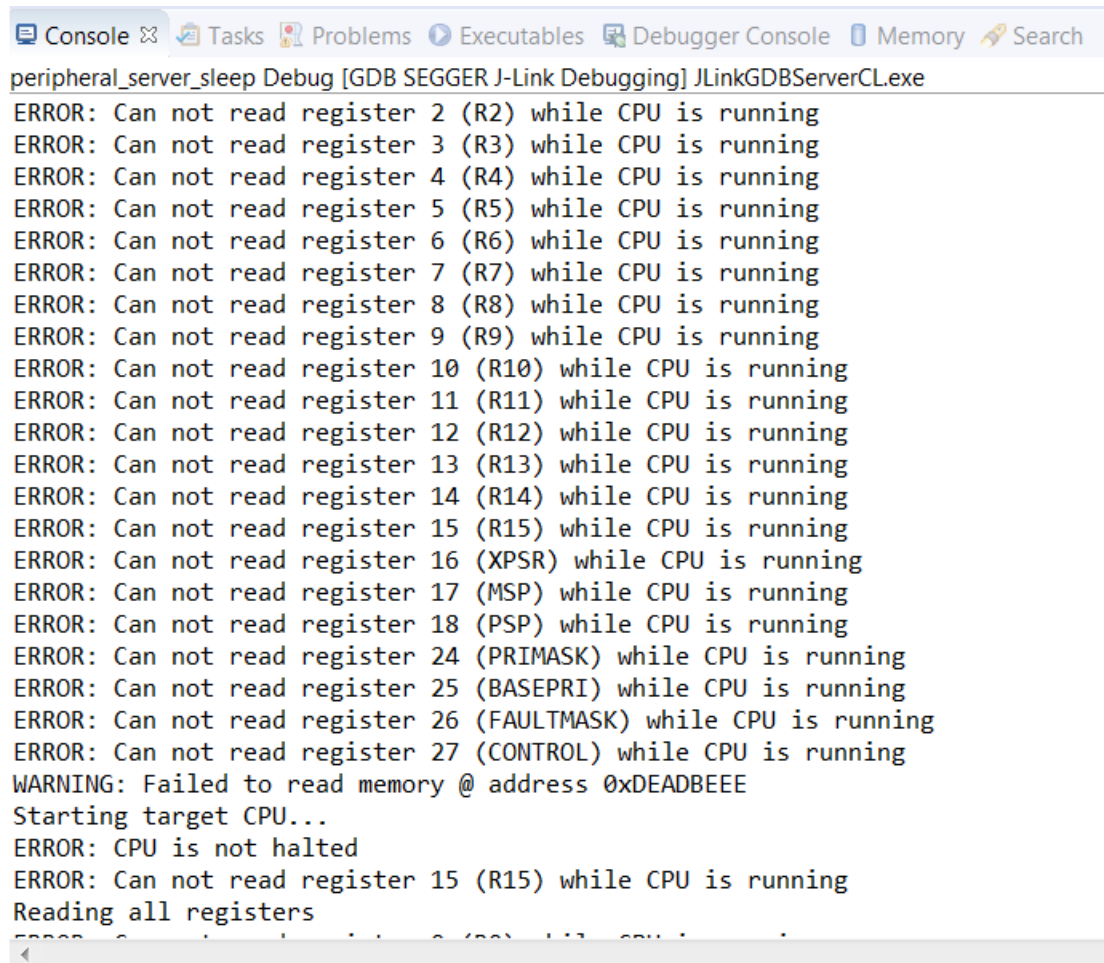

Figure 51. Debug Session Perspective when Debug Connection is Lost
6. Wait until the target enters Deep Sleep Mode. At this point the debug connection is lost; and even when the target is awake, it cannot establish a connection with JTAG. The following output is generated on the console (see the figure "Debug Session Perspective when Debug Connection is Lost" (Figure 51)).